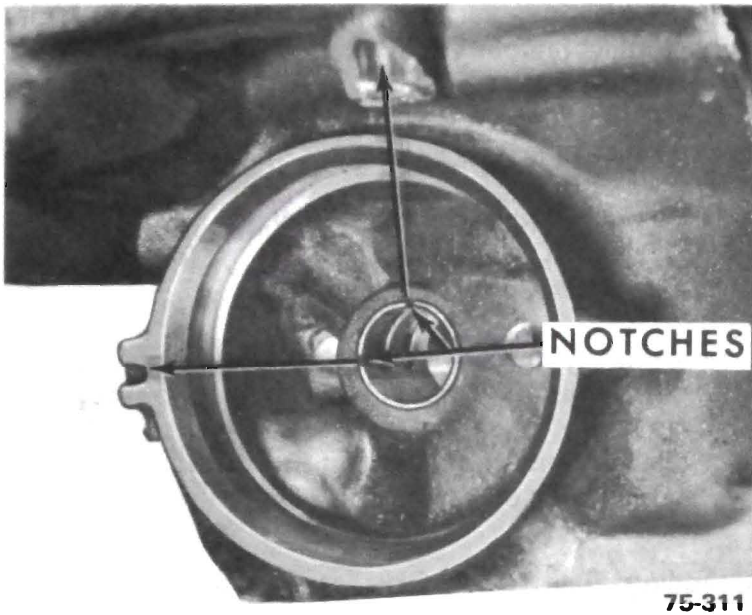

Figure 75-295
d. Drive the bushing until it is flush with the top of the bore. See Figure 75-295.